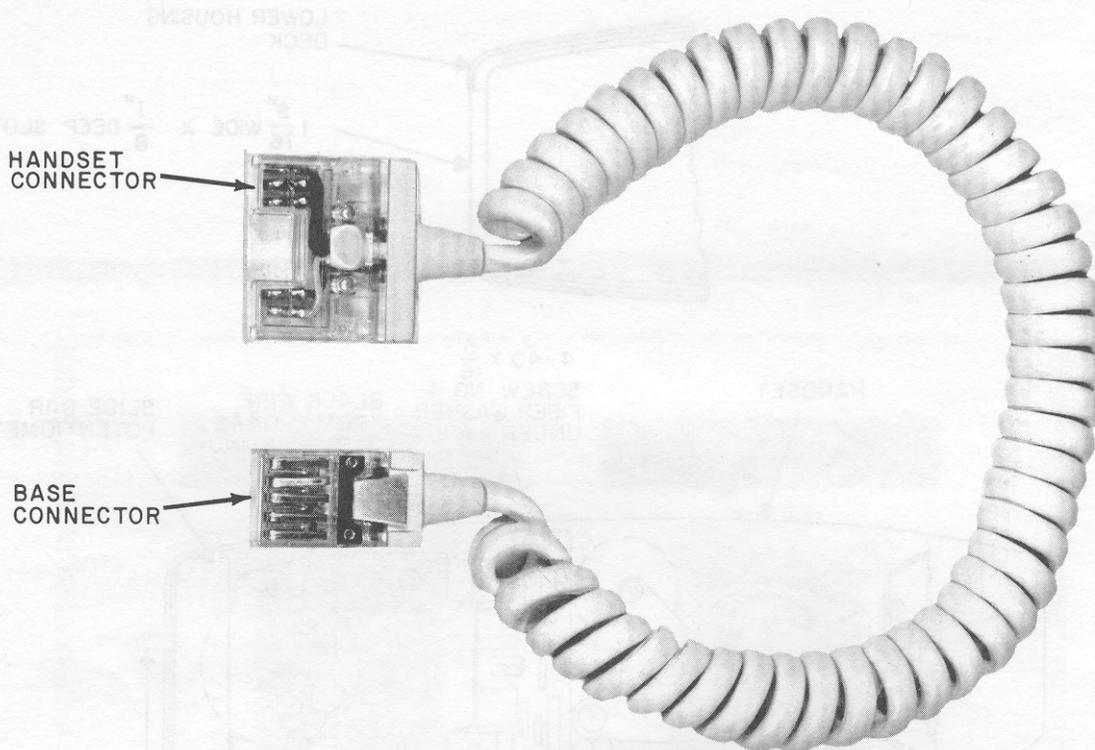

Figure 5. Handset Cord.
- 4.04 To connect the handset cord (Figure 5):